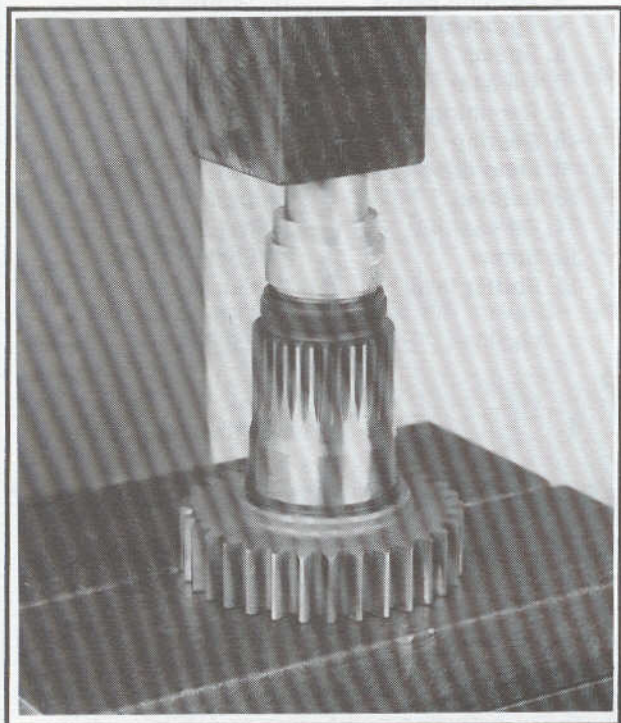

Figure 7-27. Press in Seal
10. See Figure 7-27. Turn over tool and press in seal using the 0.090 in. step.